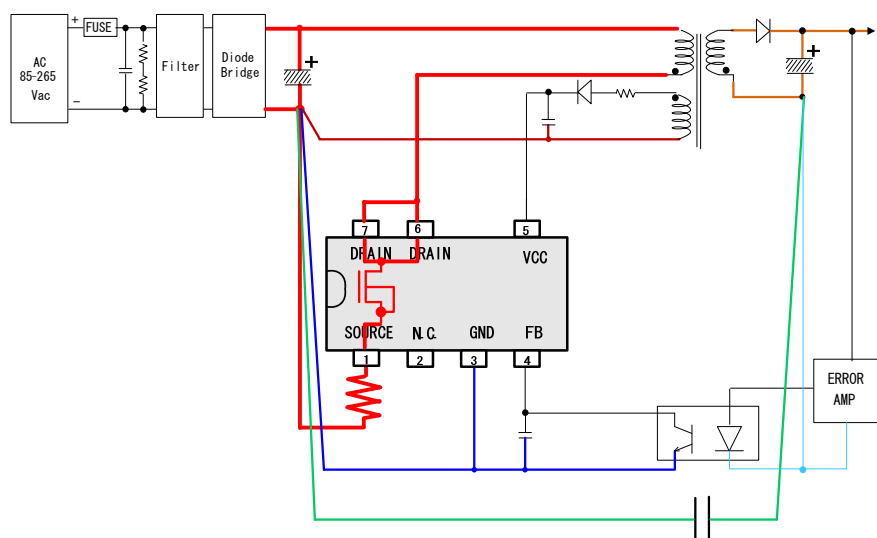

Figure 24. Board Layout Pattern
- ① The red lines shown in Figure 24 are large current pathways. Therefore, in this layout, these should be as short and thick as possible since they can cause ringing, loss, etc. Also, any loops that are generated in the red lines should be made as small as possible.
- ② The orange lines in the secondary side of Figure 24 should also be made short and thick like the red lines and should be made with small loops.
- ③ Be sure to connect the GND for the red, blue, and green lines at a single point.
- ④ The green lines are pathways for surges on the secondary side to escape to the primary side, and since a large current may flow instantaneously, they should be laid out independently of the red lines and blue lines.
- ⑤ The blue lines are GND lines for IC control. They do not have large current flow, so they are susceptible to the effects of noise. Therefore, they should be laid out independently of the red, green, and brown lines.
- ⑥ The brown lines are current pathways for the VCC pin. Current flows on these lines during switching, so they should also be laid out independently.
- ⑦ Do not route any IC control lines directly under the transformer, since they may be affected by magnetic flux.
- ⑧ Lay out capacitors for the VCC and FB pins as close as possible to the IC pins.
The sequence diagram is shown in Figure 24.